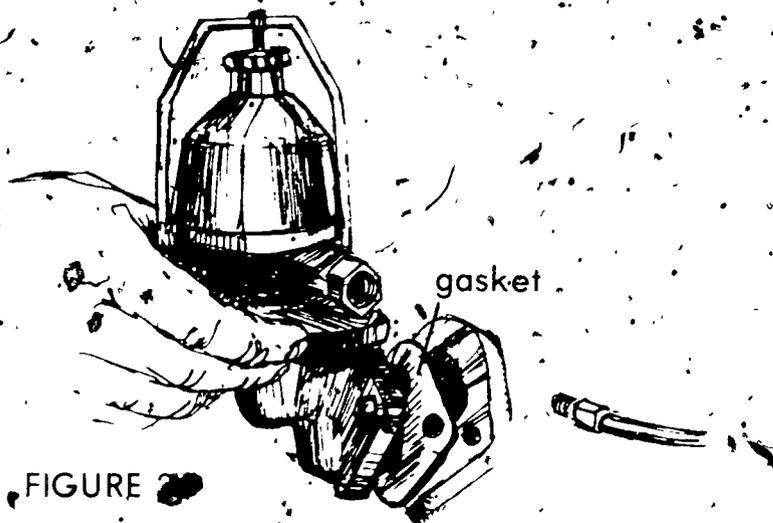

FIGURE 3
- I. Push pump inward until the mounting flange is against the mounting pad (Figure 3)